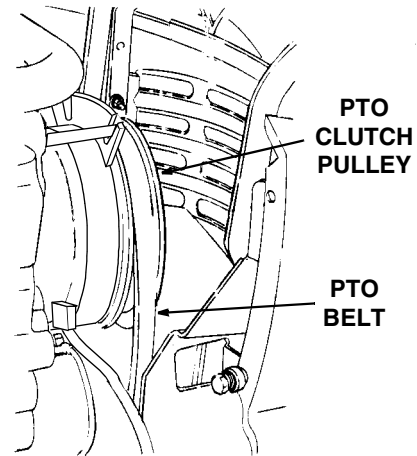

Figure 50
- Open the tractor hood and remove the forward end of the PTO belt from the PTO clutch pulley (Refer to Figure 50).